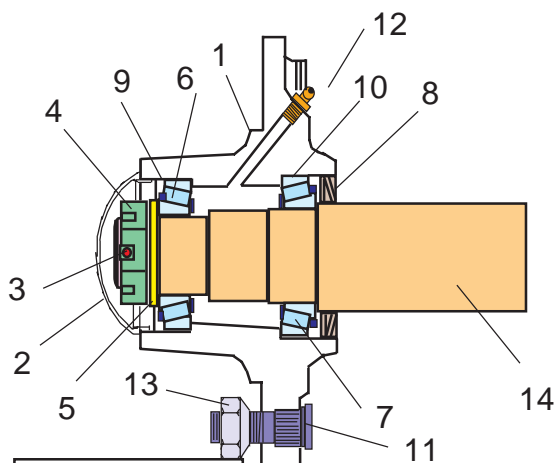

FIGURE 12
- Install dust cap (item 2). The Hub can be greased now if wanted, Pump grease in through fitting until grease comes out the front between rollers of outer bearing cone. Carefully drive dust cap (item 2) onto up aligning the dust cap rim with the edge of hub. Carefully drive the dust cap onto hub until it is seated into the recess of the hub (figure 12 & 13). Caution dust cap must be installed squarely and driven on until they are fully seated. When Assembled look at figure 12 & 13, this is what it should look like.